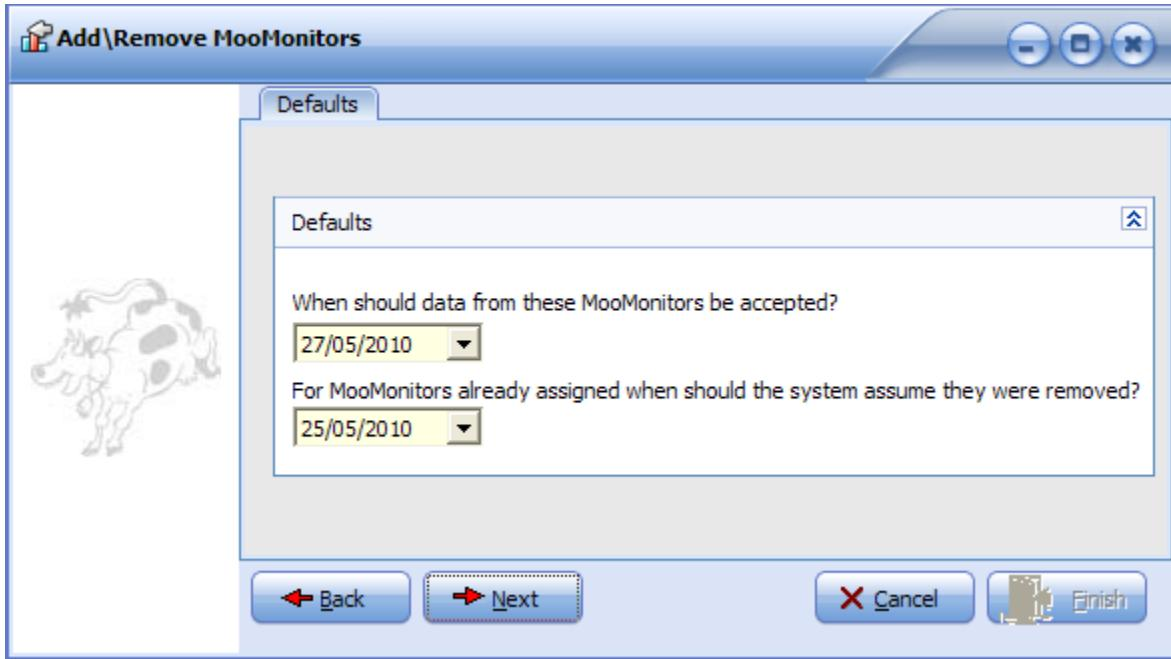

Figure 37 'Defaults screen.'
- d. The screen in Figure 37 below is displayed.